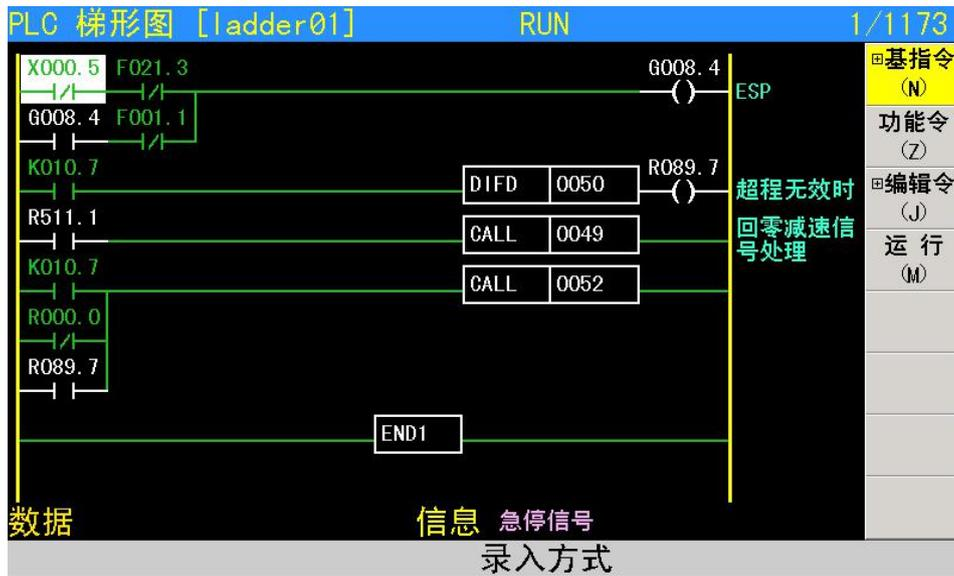
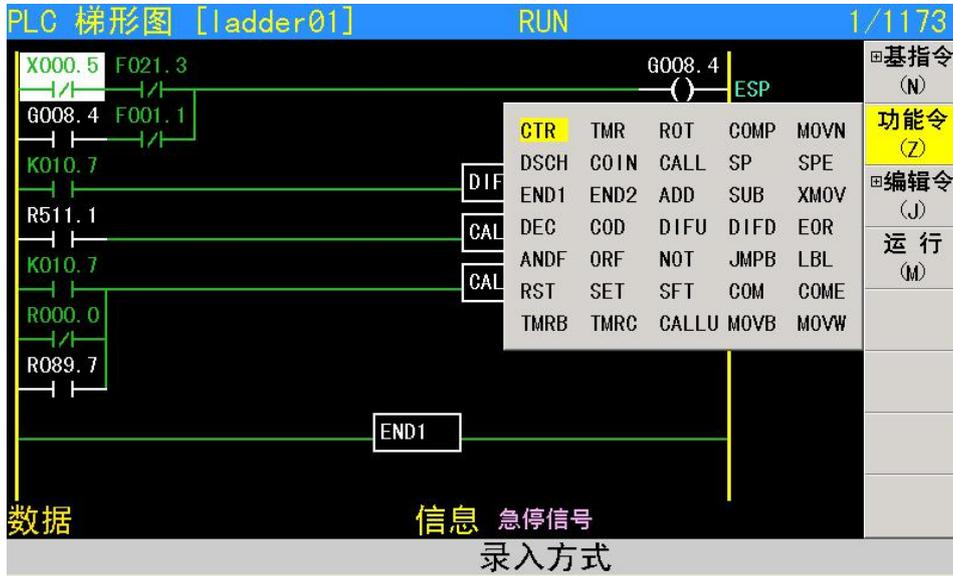
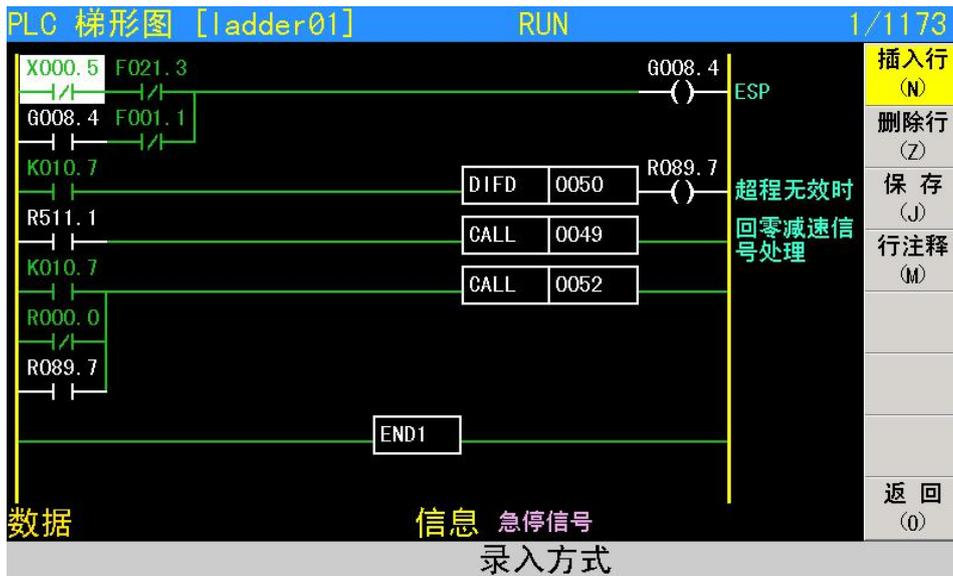

Fig. 8-1-1
Fig. 8-4-1
Fig. 8-5-1
1)PLC Ladder Graphic Window: Press the soft key [PLC] twice or press [PLC] & [F2] to enter PLCGRA classification window as Fig.8-1-1: PLCGRA window includes: basic codes, functional codes, instruction table and edit command.
Press [F1] key under Fig. 8-1-1 window to enter the basic instruction operation window as Fig. 8-2-1.
Press **【FUNC】** in Fig. 8-1-1 to enter the function instruction operation window as Fig. 8-4-1.
Press **【PLCINS】** in Fig. 8-1-1 to enter the function instruction operation window as Fig. 8-5-1.